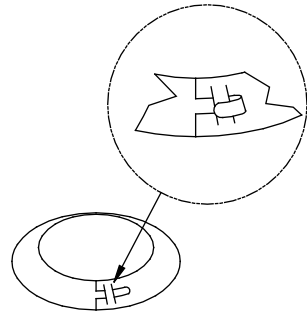

Figure 13
- e. Wrap the Collar around the chimney and fasten it loosely. Slide the Collar down to meet the Insulation Shield. Slip the tab through the adjacent slot and fold it back to tighten the Collar. (**Figure 13**).